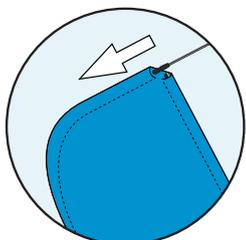

Fig 5.
4. Join the two pieces of carbon fibre rod together. Feed the carbon fibre rod into the top of the sleeve on the curved edge, black tip end first. (Fig 5)